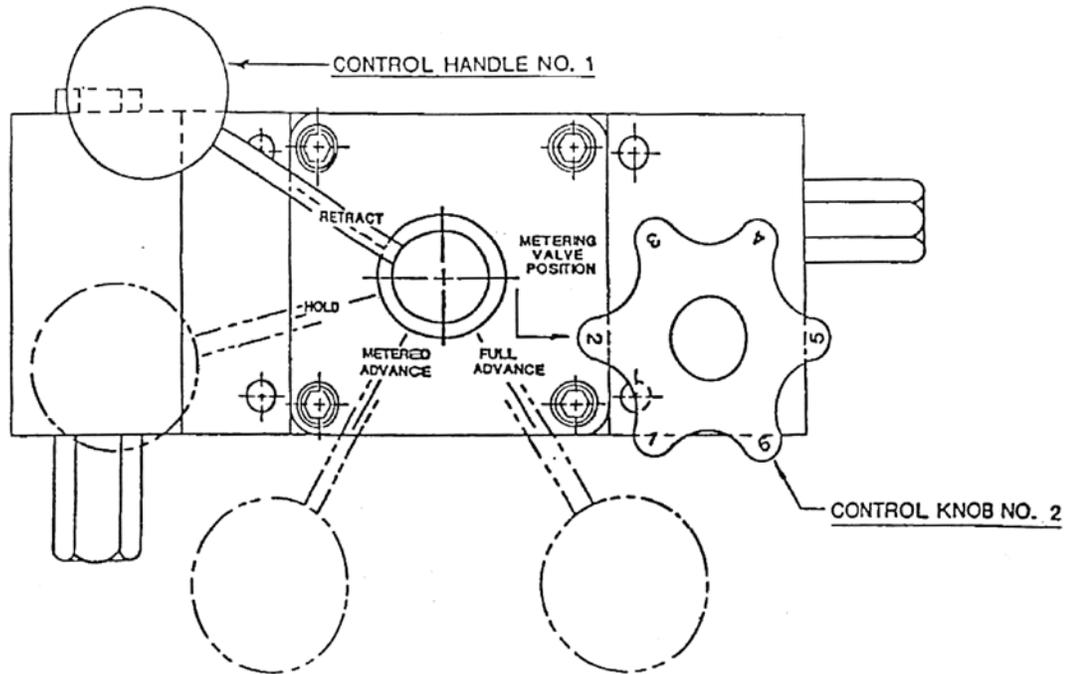

Figure 1
Placing Control Handle No. 1 (see Figure 1) into the metered advance position allows the operator to adjust the rate of loading through the use of Control Knob No. 2. To increase the rate of loading, turn Knob No. 2 counter-clockwise. To decrease the rate of loading, turn Knob No. 2 clockwise. **CAUTION: Do not over-tighten Control Knob No. 2.**
Placing Control Handle No. 1 into the hold position (see Figure 1) stops the loading of the specimen and holds the pressure on the specimen at that point.
8.5 Figure 1: Control Valve